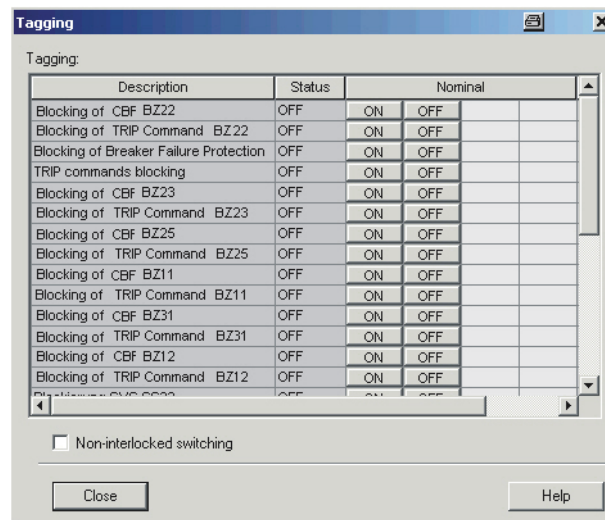

Figure 6-17 Tagging window in DIGSI
- ❑ Double-click **Tagging** in the function selection. The Tagging window opens (see Figure 6-17, page 259).